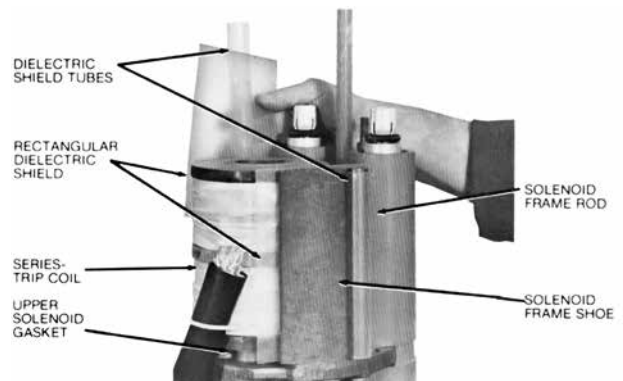

Figure 20. Removing the dielectric shields
4. Remove the two rectangular dielectric shields inserted between the solenoid frame shoe and the series-trip coil (Figure 20). If necessary, remove the two dielectric shield tubes from the solenoid frame rod supports (Figure 20).